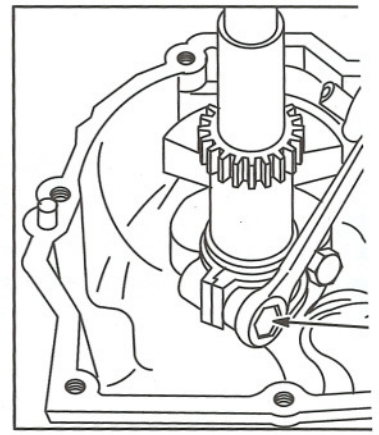

Fig. 1
1. Remove connecting rod cap (1), Fig. 1.